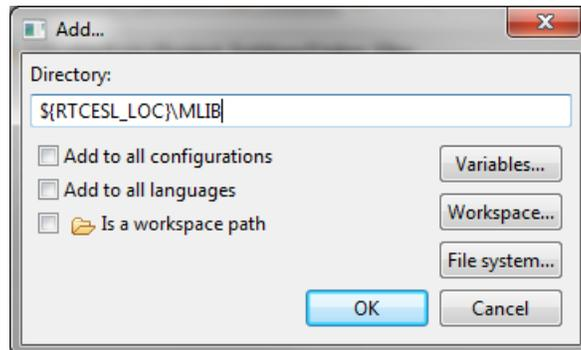

Figure 1-8. Library path inclusion
5. Look for the RTCESL\_LOC variable by clicking Variables..., and then finish the path in the box by adding the following (see Figure 1-8): `${RTCESL_LOC}\MLIB`.